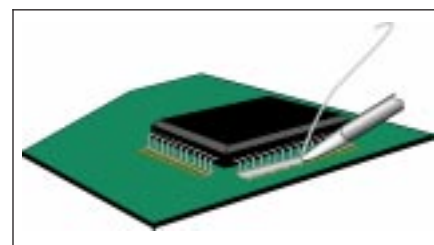

Figure 1 Bridge Fill
6. Using soldering handpiece, melt solder to form a solder bridge fill joining all component leads. (See Figure 1.)